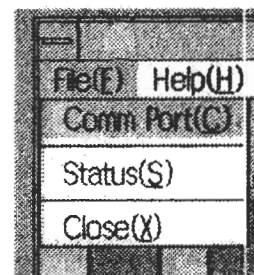

Figure 4-12
- ① "File(F)" pull-down menu (Figure 4-12)
Opens the "Strings Edit" window (Figure 4-12).